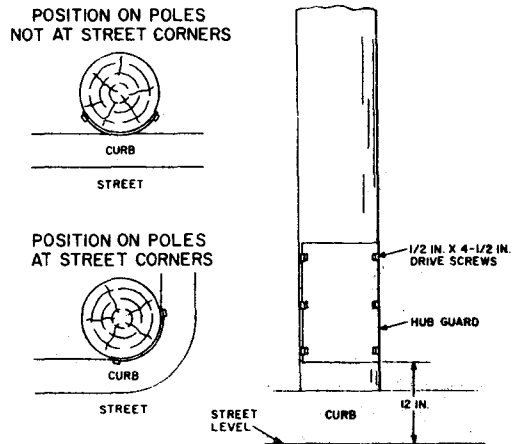

Fig. 3—Hub Guard
1.12 Where poles must be located within six inches of the street edge of the curb, in business sections, or in narrow alleys, or driveways, where vehicles may scrape in passing, hub guards should be placed as shown in Fig. 3.